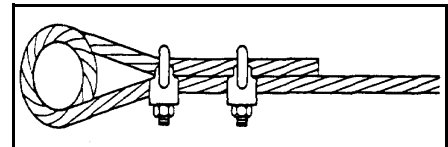

Figure 3.9
4. Thread cable through cable attach bracket and secure with two 1/4" cable clamps. Position cable clamps as shown in Figure 3.9.